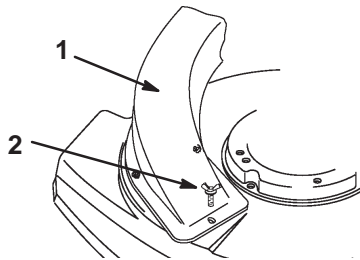

Figure 38
6. Push the keyhole slots on the chute down over the two shoulder bolts on the lawn mower housing and slide the chute clockwise to lock it in place (Fig. 38).
7. Secure with the wing screw (Fig. 38).